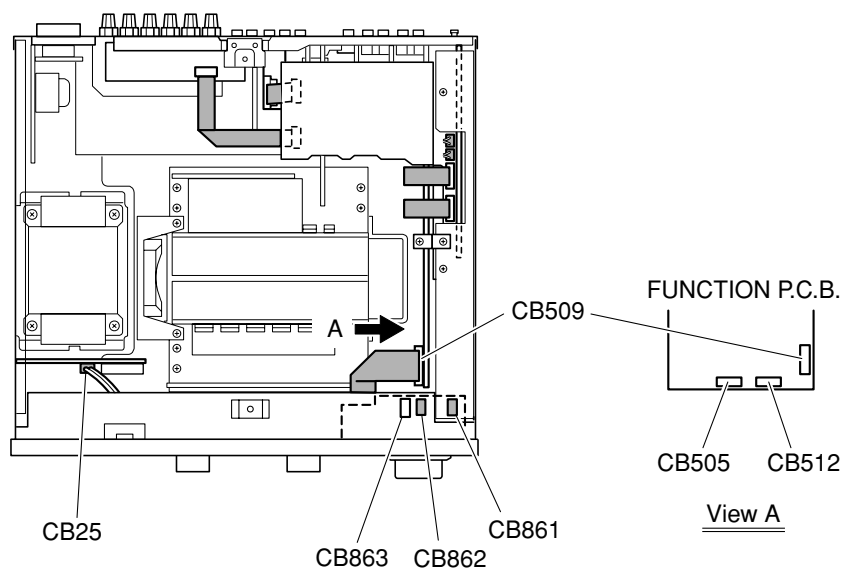

Fig. 2
- Remove CB25, CB505, CB509, CB512, CB861 ~ CB863 and then remove the Front Panel Unit. (Fig. 2)